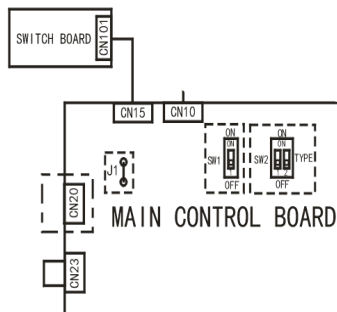

Fig. 25 — Main Control Board
13. Connect the wire from the Main Control board. see Fig. 25 — on page 22.
1. Locate the net module connected to CN20 on the Main Control Board (see Fig. 25).